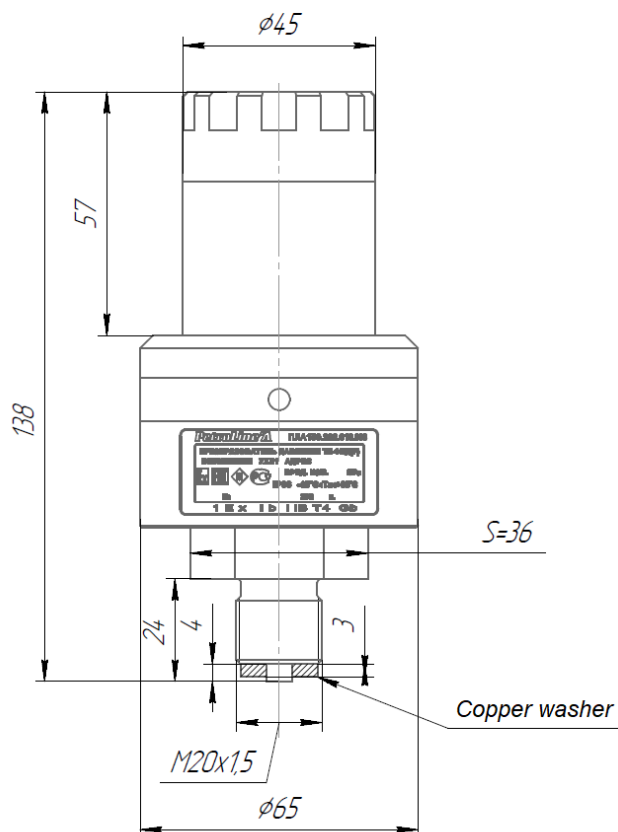

Figure 1. Overall dimensions of the TP-140D(R)
- Basic dimensions at the processing facilities correspond to the dimensions of the TP-140D(R) and PS-150(RK) (see Fig. 1, 2);